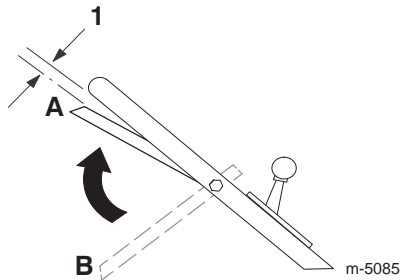

Figure 14
8. Move the blade control bail to the right and then lift it up to about one inch (2.5 cm) below the handle; refer to position A in Figure 14.